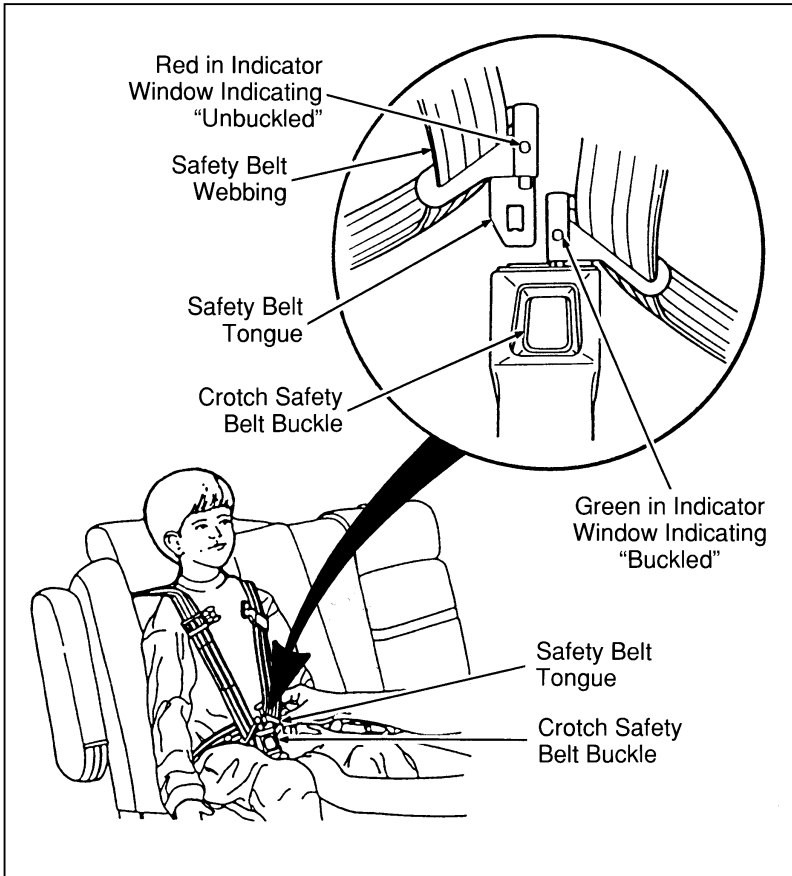

Figure 5: Fastening the crotch safety belt buckle
6. Insert either the left or right safety belt tongue into the single opening of the crotch safety belt buckle as shown in Figure 5. (It does not matter which tongue is inserted first.) Then insert the other tongue. The color green must appear in the indicator window on each tongue when buckled.
6. Allow the belt to retract. A clicking sound will be heard as the belt retracts. This indicates the retractor is in the automatic locking mode. Pull on the lap belt portion across the child seat towards the buckle and continue to pull up on the shoulder belt portion while pushing down on the child seat allowing the shoulder belt to retract, to remove any slack in seat belt. See Figures 5 and 6.